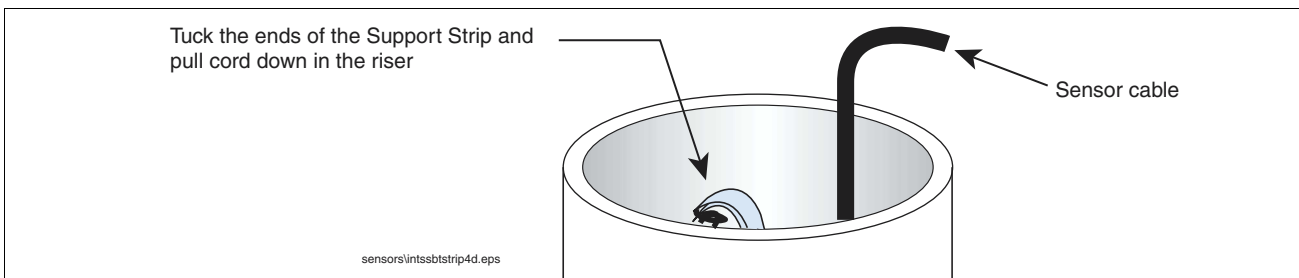

Figure 8.
- Tuck the strip ends and pull cord down into riser (Figure 8). Consult the Interstitial Liquid Sensor installation manual for instructions on completing sensor installation (install riser cap, connect field wiring, etc.).